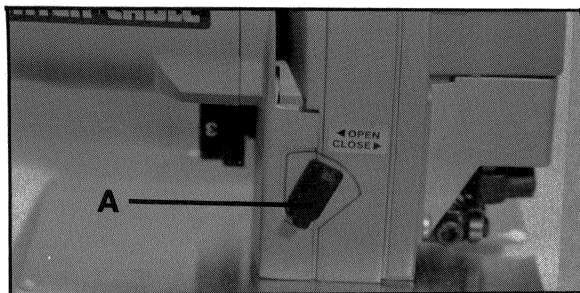

Fig. 6
These saws are equipped with a chip blower to keep the cutting area free of chips. This blower may be switched "ON" or "OFF" by moving lever (A) Fig. 6, to the "OPEN" position (blower "ON") or to the "CLOSED" position (blower "OFF").